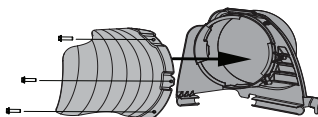

Figure 8
- Attach the bagger deflector (731-27134) to the upper chute support using the three screws (710-05108) supplied in deflector hardware pack (689-02299). See Figure 8.